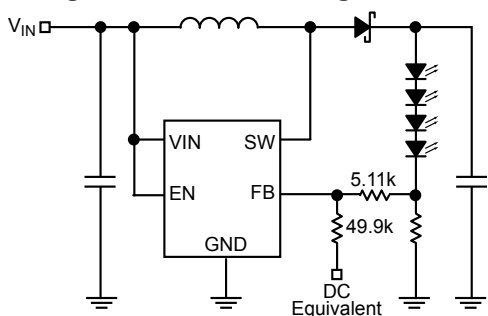

Figure 2. Continuous Dimming
2. Continuous dimming control is implemented by applying a DC control voltage to the FB pin of the MIC2287 through a series resistor as shown in Figure 2. The LED intensity (current) can be dynamically varied applying a DC voltage to the FB pin. The DC voltage can come from a DAC signal, or a filtered PWM signal. The advantage of this approach is a high frequency PWM signal (>10kHz) that can be used to control LED intensity.